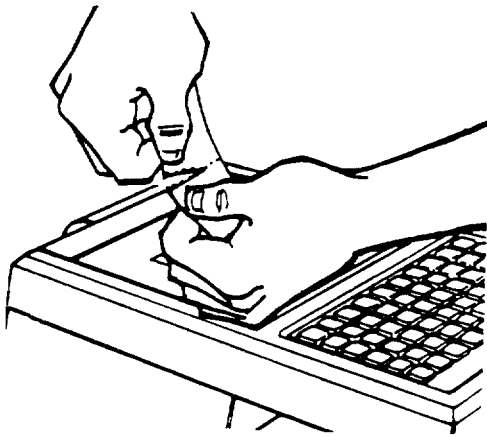

Figure 26. Removing Marker from Printer
- a. Press FEED to move last printed sleeve above tear bar and tear sleeve along perforation to remove from printer (Figure 26)